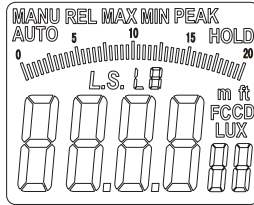

Figure 5-1-5
- Hold the “MAX/MIN/LS” button for one second and the LS value will flash on the LCD display (as shown in figure 5-1-5). The meter is now in source selection mode. Press “REL/PEAK” or “HOLD/ZERO” to change the light source (L0-L9), long press to accelerate change. Press “RAN” again to switch back to the previous step.